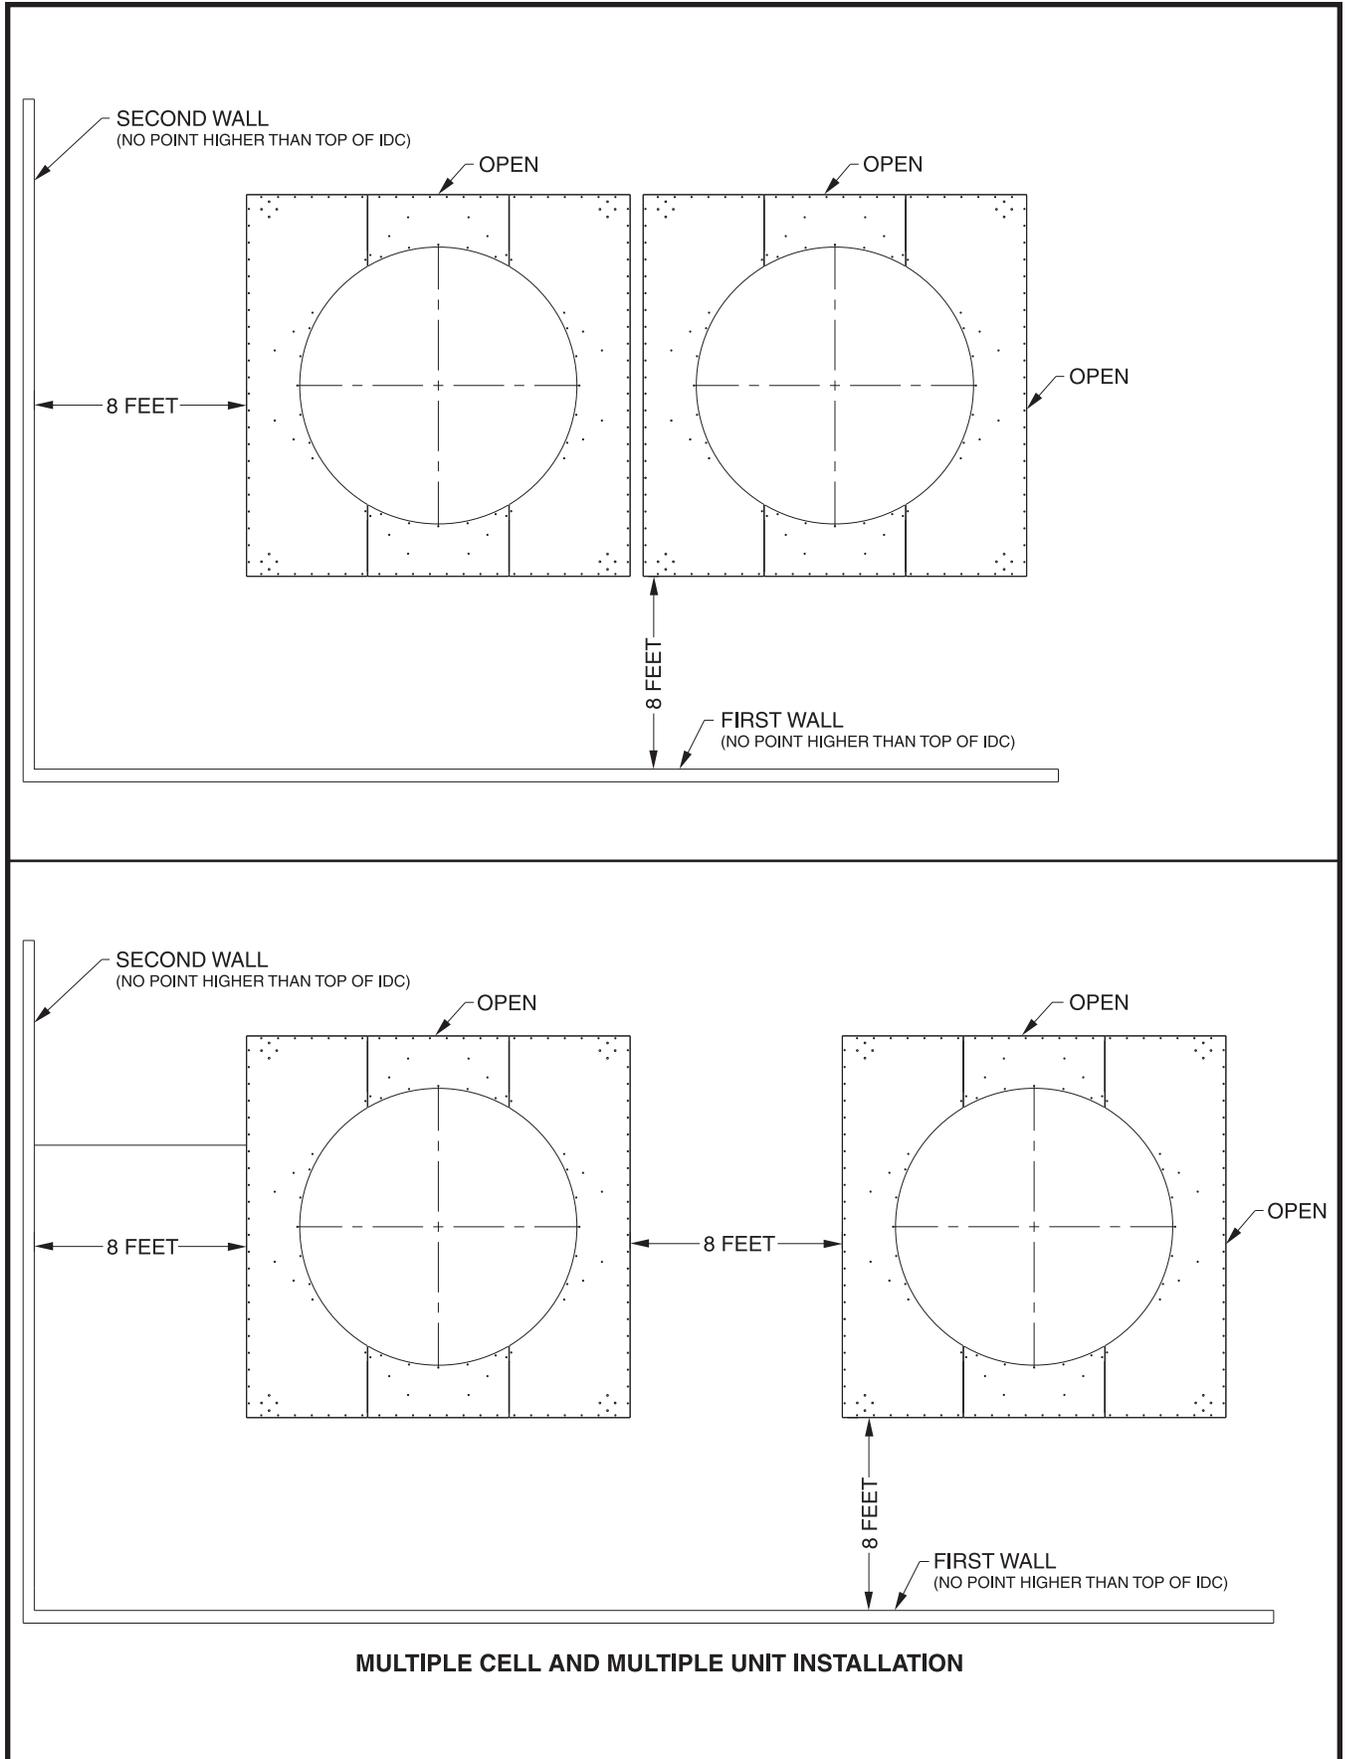

Figure 1-3. IDC Unit-to-Wall Spacing Requirements (Multiple Cell and Multiple Unit Installation)
For other minimum spacing requirements see **Figure 1-3. (IDC Unit/s to Wall Spacing Requirements)** for examples showing (2) IDC condensers installed next to a single wall and next to a double wall; and, (1) multiple-cell IDC condenser installed next to a double wall.